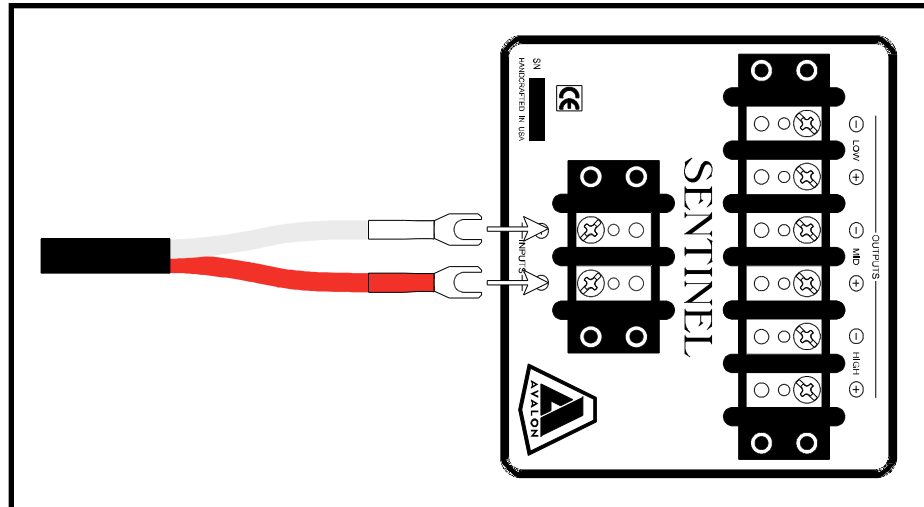

Figure 4.2 – Connecting your speaker cables to the crossover. Make sure to check the polarity of the connections.
2. Connect your own speaker wires (for the upper speaker cabinet drivers) to the **INPUT** terminal block on the bottom of the crossover cabinet, as shown in Figure 4.2.